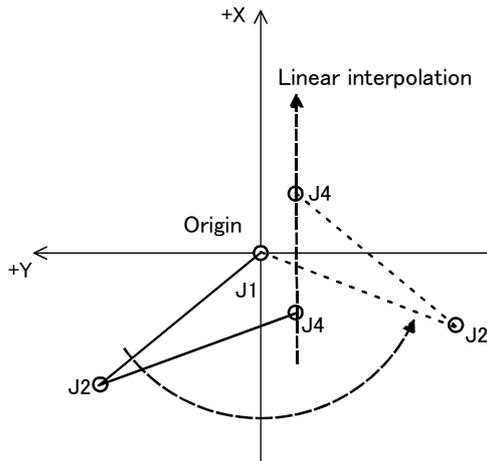

Fig.4-30: Passing through near the origin point
- (1) When performing a XYZ interpolation operation while maintaining the speed of the control point, the J1 axis must rotate at a faster speed when passing through a point near the origin point O (one of the robot's singular points) as shown in Fig. 4-30, causing an excessive speed error depending on the specified speed. If SpdOpt On is executed, the speed is adjusted automatically in order to prevent an excessive speed error from occurring.